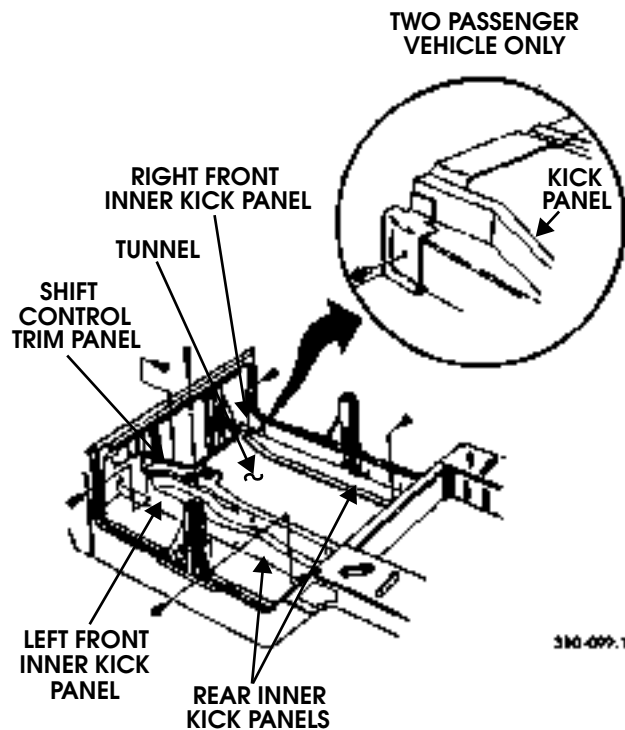

Figure 10-52: Inner Kick Panel Mounting
5. Remove panel fasteners and rear inner kick panel from tunnel (Figure 10-52).
7. Remove screw/washer assemblies, panel fastener, and shift control panel from tunnel (Figure 10-52).
1. Secure rear inner kick panel to right rear of tunnel with panel fastener (Figure 10-52).